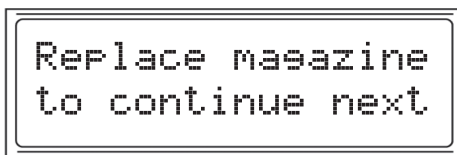

Fig. 29
- **Replace Magazine:** If you press **Select** from the home screen to load another magazine, but have not removed the previous fully loaded magazine, the loader will display the “Replace magazine to continue next” message (*Fig. 29*).